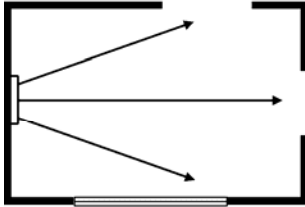

Fig. 1
- Face the heater down the room for maximum performance (fig.1)